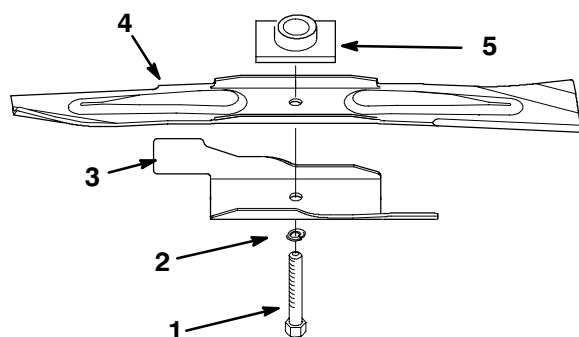

Figure 29
2. Remove the blade bolt, the lock washer, the blade accelerator, and the blade (Fig. 29).
1. Position the blade onto the spindle and the blade driver, with the curved blade tips pointing toward the lawn mower and the blade driver nesting in the recess of the blade (Fig. 29).
2. Install the accelerator, the lock washer, and the blade bolt (Fig. 29).